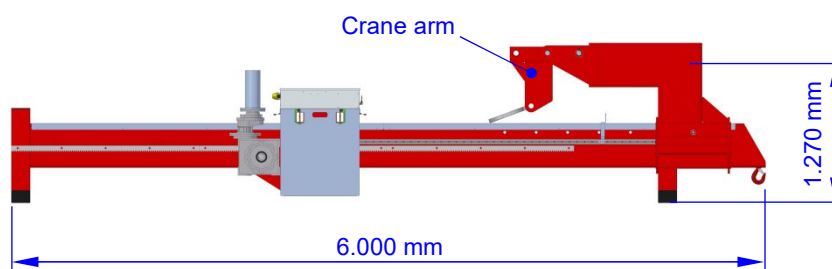
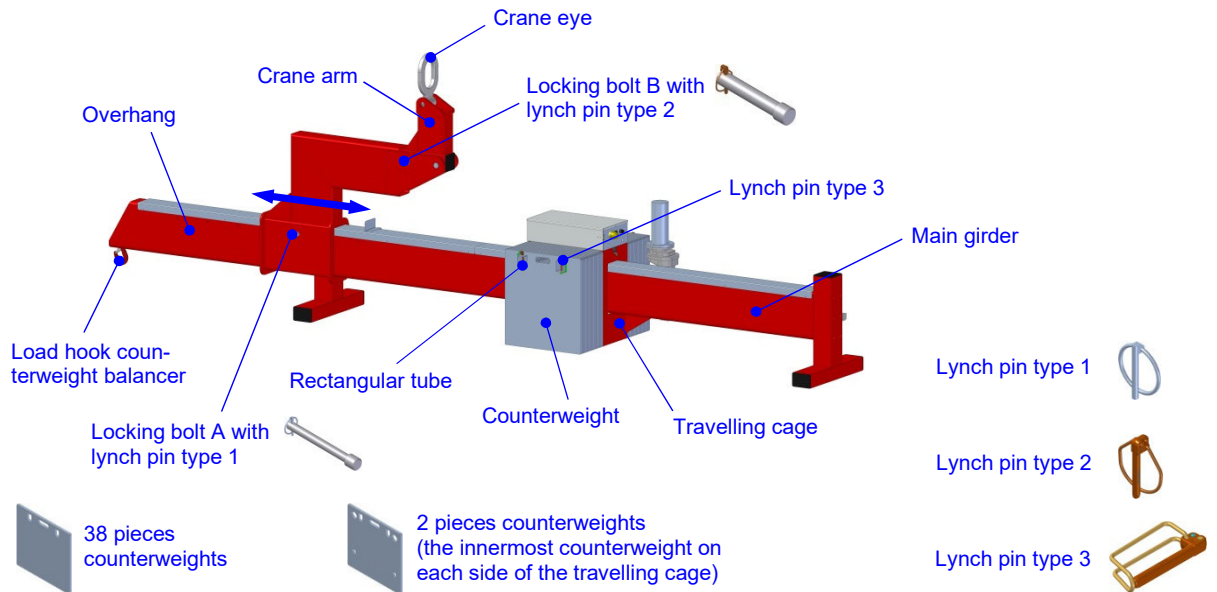

Fig. 4: Transport and storage of the counterweight balancer
Fig. 7: Assembled counterweight balancer
2. Bring the counterweights in the position shown in fig. 4.
3. Remove the locking bolt B with lynch pin type 2 (s. fig. 7).
4. Fold the crane arm in the position shown in fig. 4.
- ⇒ If the crane arm is in transport position (s. fig. 4), fold it into the position shown in figure 7 by performing the following steps:
1. Fold the crane arm into the position shown in figure 7.
1. Remove the four lynch pins type 3 (s. fig. 7).